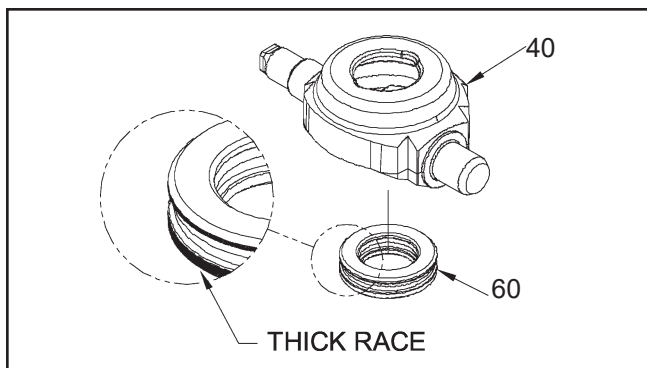

Figure 13.
11. **(See Figure 13)** Remove the thrust bearing assembly (60) from the swashplate (40).